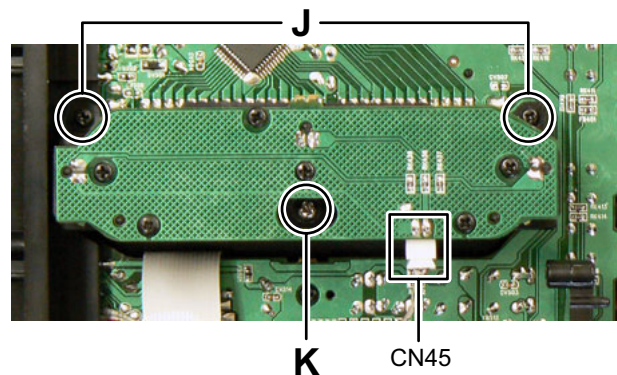

Fig. 13
3.1.8 Removing the LED board (See Fig.13)